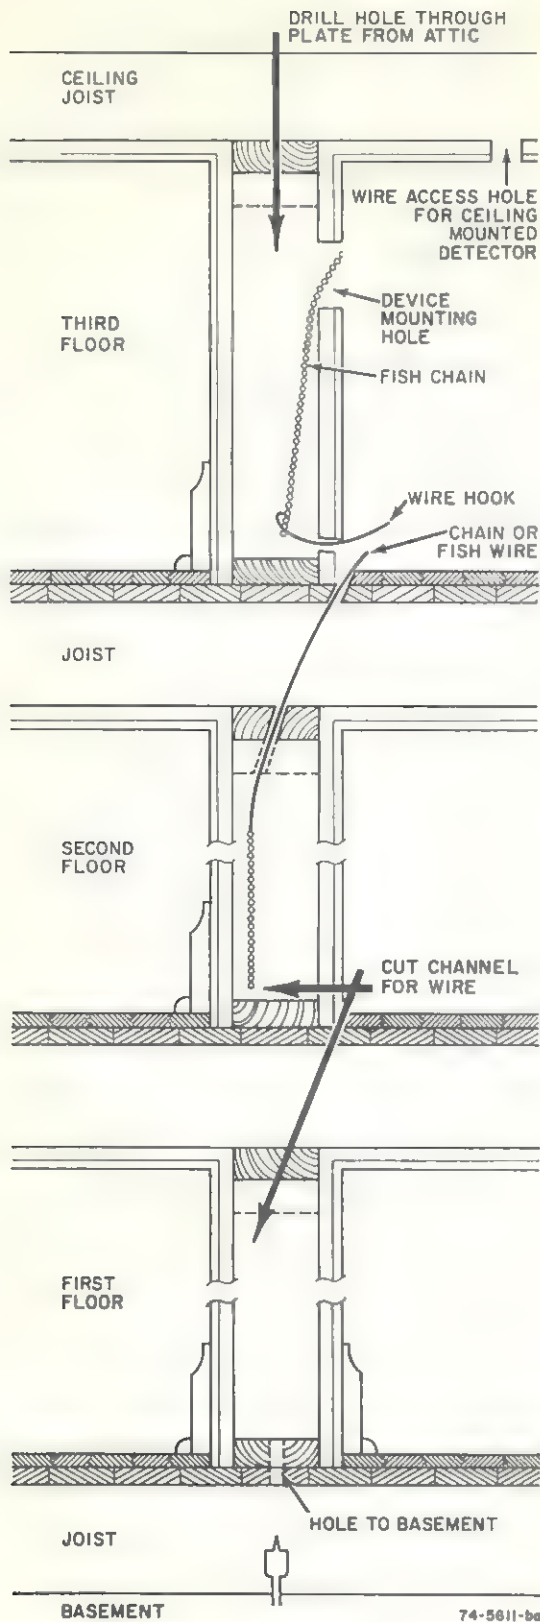

Fig. 53—Running Wires Through Walls of Multi-Story Frame Buildings.
1. Refer to Fig. 53 which illustrates a daisy chain method of going from one floor to another through interior walls.